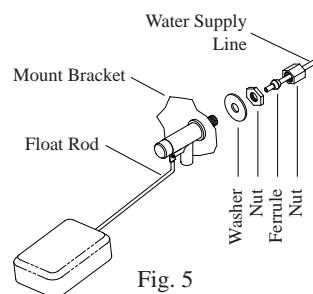

Fig. 5
- Float valve.** Install the float valve to the mount bracket in the cooler (Fig. 5) and attach water supply line. Note: 75/85 and 95 units come with the float valve installed. For the other models, the float is purchased separately.